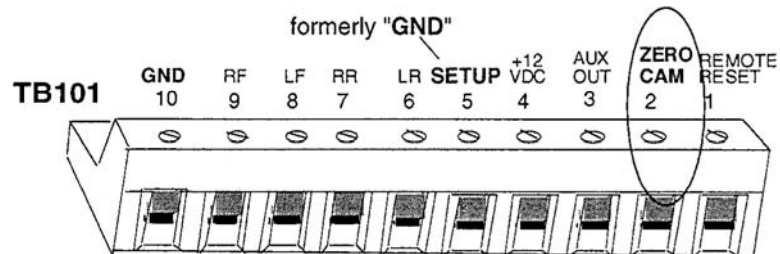

Figure 2-9. Connector for zero cam, and optional remote reset and chart recorder
The zero signal must come on approximately at 240° and turn off at 30°. (The zero signal is a closure to ground. That means during the zero signal the cam switch must be closed. The closed switch makes a connection between zero cam (pin 2) and GND (pin 10) on connector TB101 (see Figure 2-2 and Figure 2-9). If using a latching magnetic cam switch that uses magnets to turn the switch on and off, make sure you install the magnets at 240° and 30°. See instructions with switch for proper installation. Make sure that the zero signal does not turn off until after top dead center (TDC). For other types of switches (like a Candy switch), you can set the switch after wiring is complete.
6. Connect one of the wires to pin 1 (RESET) and the other to pin 10 (GND). See Figure 2-9 for connections.
3. Carefully pull the connector out of its socket. Which wire you select is determined by the strain links location that you wish to monitor. Refer to Figure 2-9 (earlier in this chapter) for an illustration of these connections. Connect the wire that will record tonnage at the left rear strain link as listed in the following table: